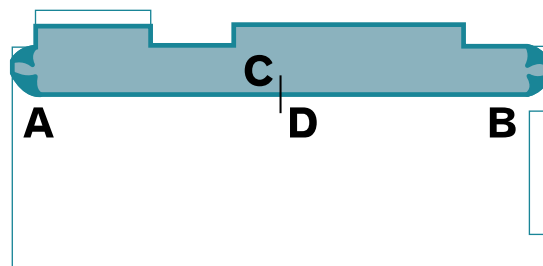

Figure 3 Marking the position
- ▶ When satisfied that the fit on the first edge is correct, use a pencil to trace the opposite edge onto the subfloor (line A-B in Fig 3).
- ▶ In the centre of the room, draw a line on both the sheet and subfloor square to the main axis of the sheet (line C-D in Fig 3).